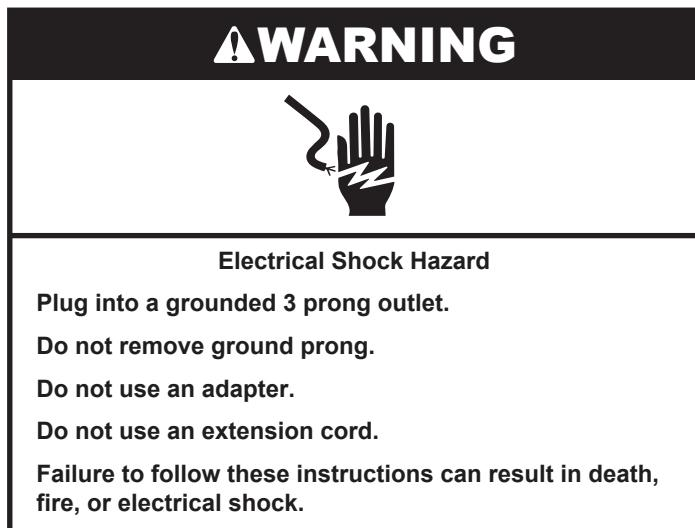

**FIGURE 7**
9. Mount the buzzer behind the glider rail using the screw removed in step 3, by putting the screw through the hole below the orientation clip. The buzzer wires should be facing downward. See *Figure 7*.
16. Disconnect the taco clip that grounds the heat shield. See *Figure 7*.